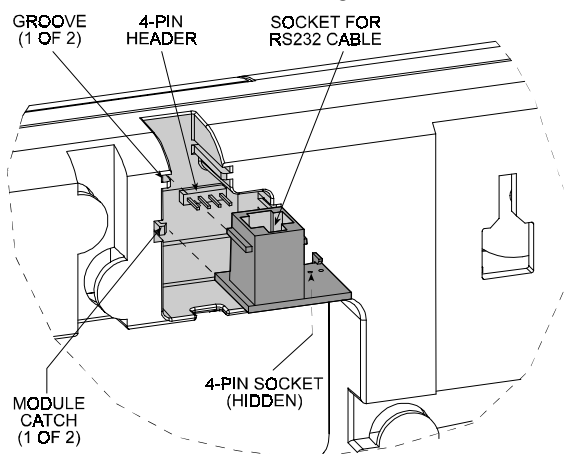

Figure 28. Inserting the RS232 Module
- C. Align the RS232 module with the grooves and the module catches as shown in Figure 28.